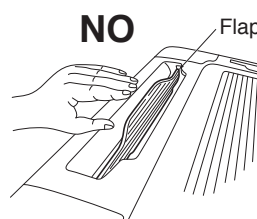

Fig. 6-12
- **Do not touch the flap or apply force to it. (This may cause flap malfunction.)** (Fig. 6-12)